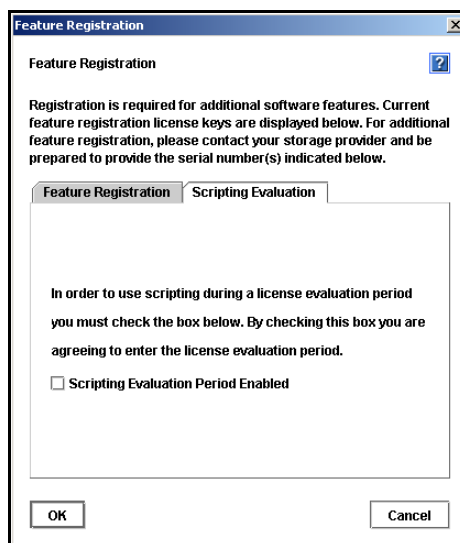

Figure 196. Enabling Scripting Evaluation
3. Click Registration Tasks and select Feature Registrations, shown in Figure 196.
4. Select the Scripting Evaluation tab, shown in Figure 196.